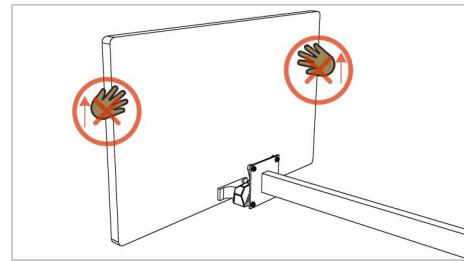

Figure 5
**Make sure that the VESA adapter comes off when you pull the monitor up. This is because the monitor is designed to remove the original Samsung monitor base. (Figure 5)**